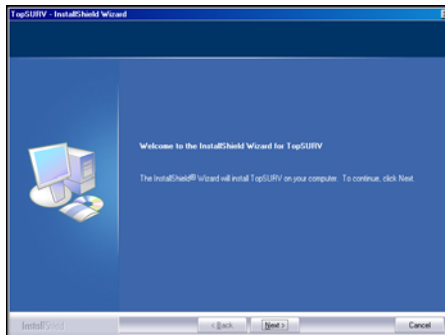

Figure 1-1. Welcome Screen
4. Click TopSURV installation file on your computer. The **Welcome** screen displays (Figure 1-1).